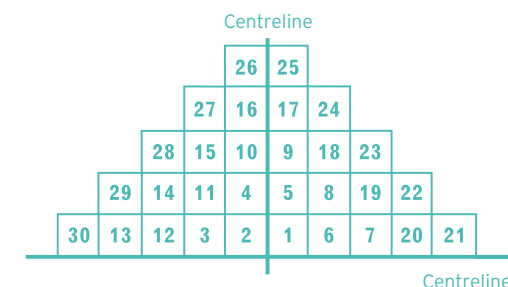

Figure 9 Pyramid layout
- Lay the first pyramid of tiles from the centrelines, using the sequence shown in Fig 9. Ensure a close bond is maintained at all times.
NOTE Construction of a pyramid should always start at the centre of the baseline, working in the same sequence as shown in Figure 9.